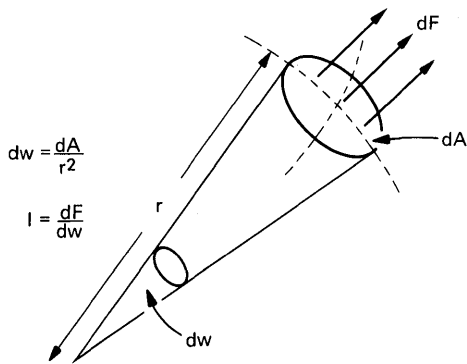

Figure 3. Solid angles and luminous intensity.
Since it is generally not practical to collect all the flux from a light source, and direct it in some desired direction, it is desirable to know how the flux is distributed spatially about the source. If we treat the source as a point (far field measurement), we can divide the space around the source into elements of solid angle ($d\omega$), and inquire as to the luminous flux (dF) contained in each element of solid angle ($\frac{dF}{d\omega}$). The resulting quantity is Lumens/Steradian and is called LUMINOUS INTENSITY (I) (Fig. 3). The unit